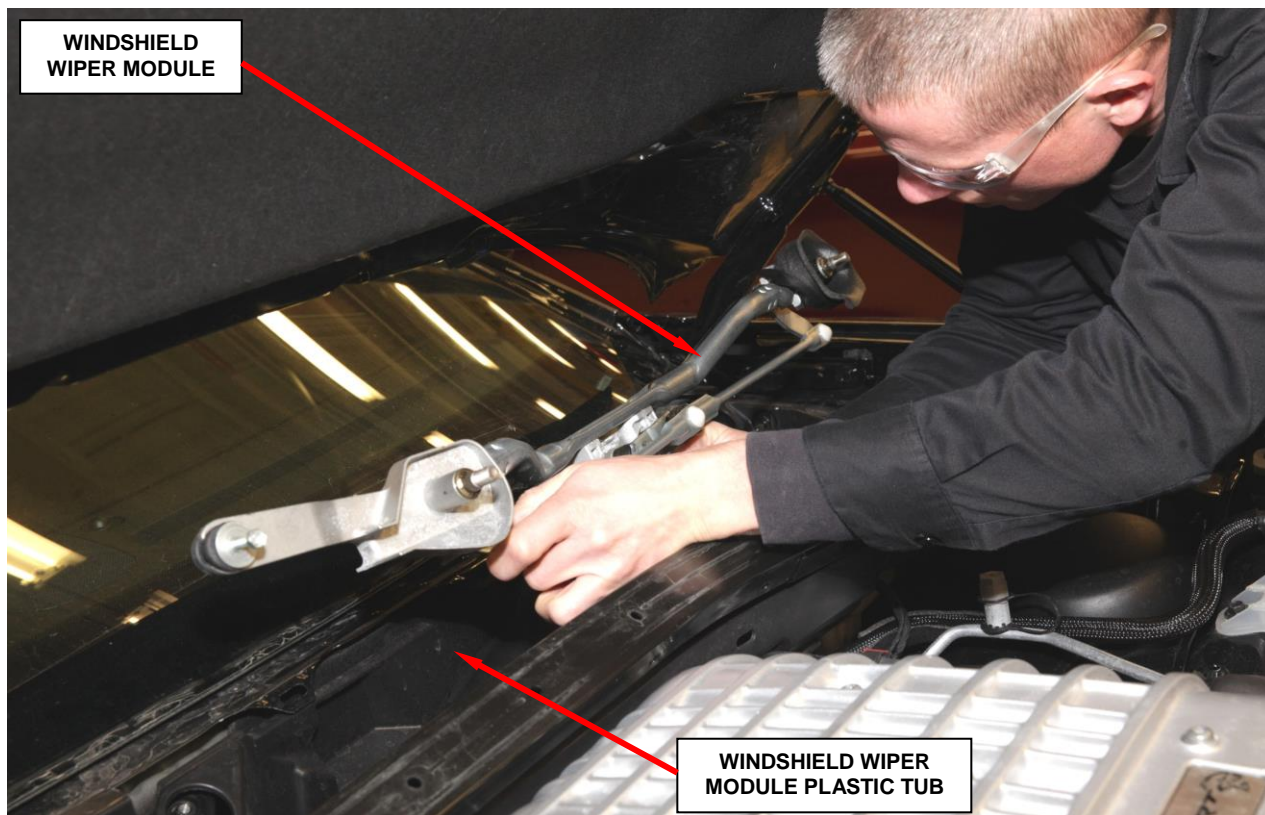

Figure 5 – Windshield Wiper Module
c. Remove and save the windshield wiper module (Figure 5).